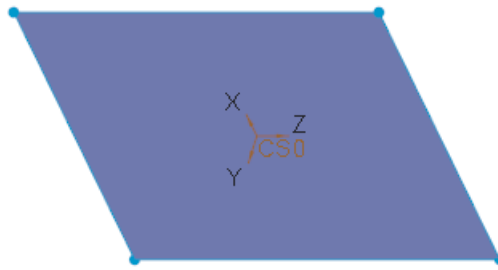

Figure 15-135 Square surface created
1. Choose the **Choose a square initial shape** option from the **Open Primitives** area of the **Shapes** drop-down list; a square surface is created in the XY plane, as shown in Figure 15-135.